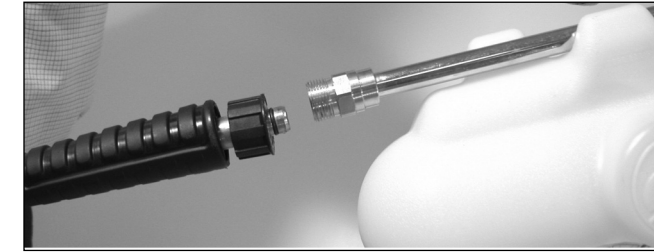

Figure 7- Attach lance to gun
7. Attach the lance with nozzle to the gun (see Figure 7).